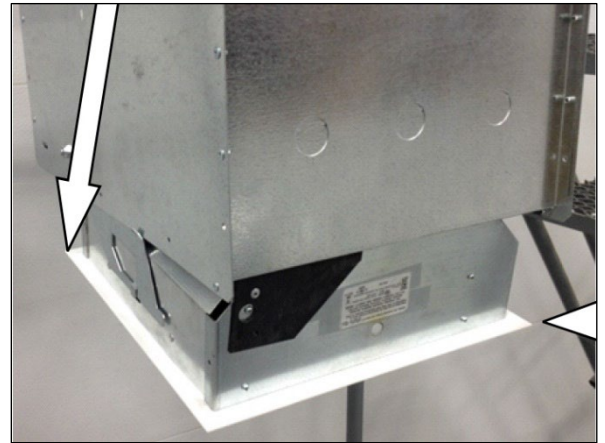

Figure 5
5. Grasp fixture head by opposite corners and pull away from back box, slightly, to disengage spring arms from edge of back box. *(When installing or removing fixture head, grasp and pull by the CORNERS ONLY.)* See **Figures 5**.